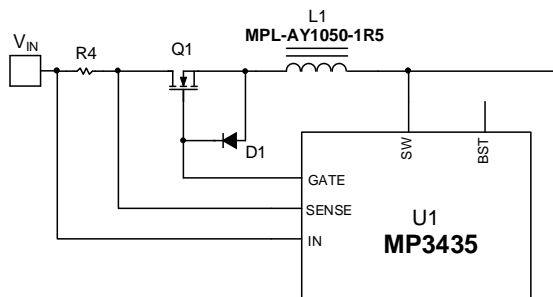

Figure 4: Gate Protection Diode for High Output Voltage Condition
4. Gate-to-source voltage rating: The positive gate-to-source voltage rating should exceed 5.5V, while the negative voltage rating should exceed V_{OUT} . If V_{OUT} is too high and the MOSFET gate-to-source rating cannot meet the requirement, placing a diode between the source and disconnecting MOSFET gate is recommended (see Figure 4).